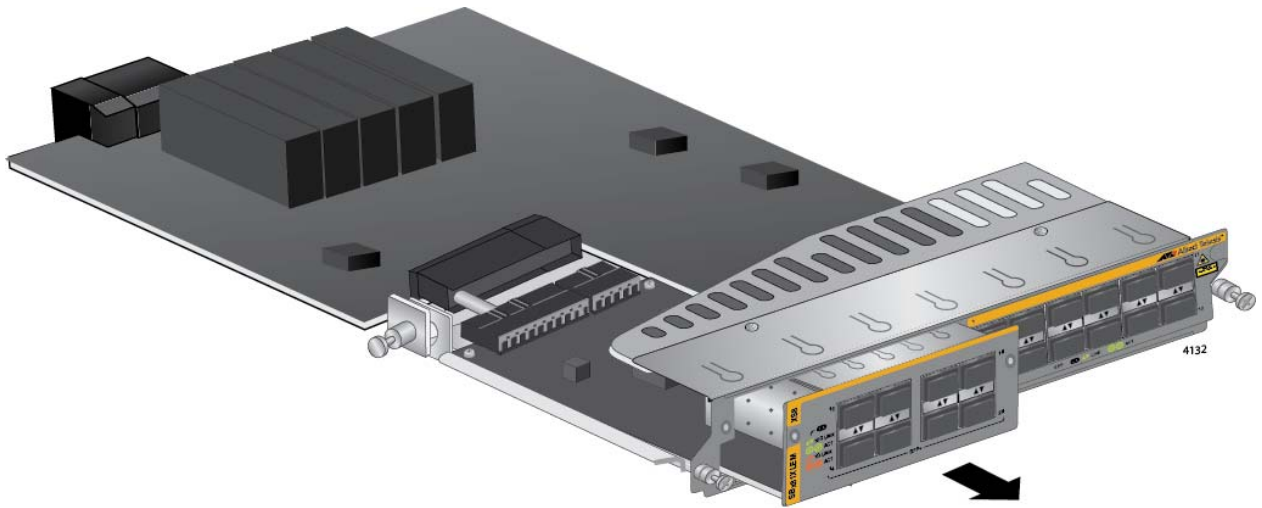

Figure 166. Sliding the Expansion Module from the AT-SBx81XLEM Line Card
6. Slide the expansion module from the line card. Refer to Figure 166 on page 260.